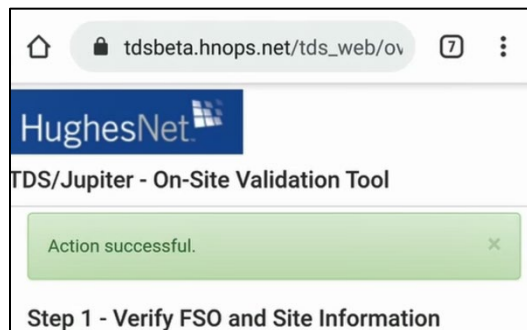

Figure 71: OVT refresh successful
4. Verify the FSO and site information. Tap Refresh Site Information (outlined in Figure 71) to ensure the most up-to-date information is populated.